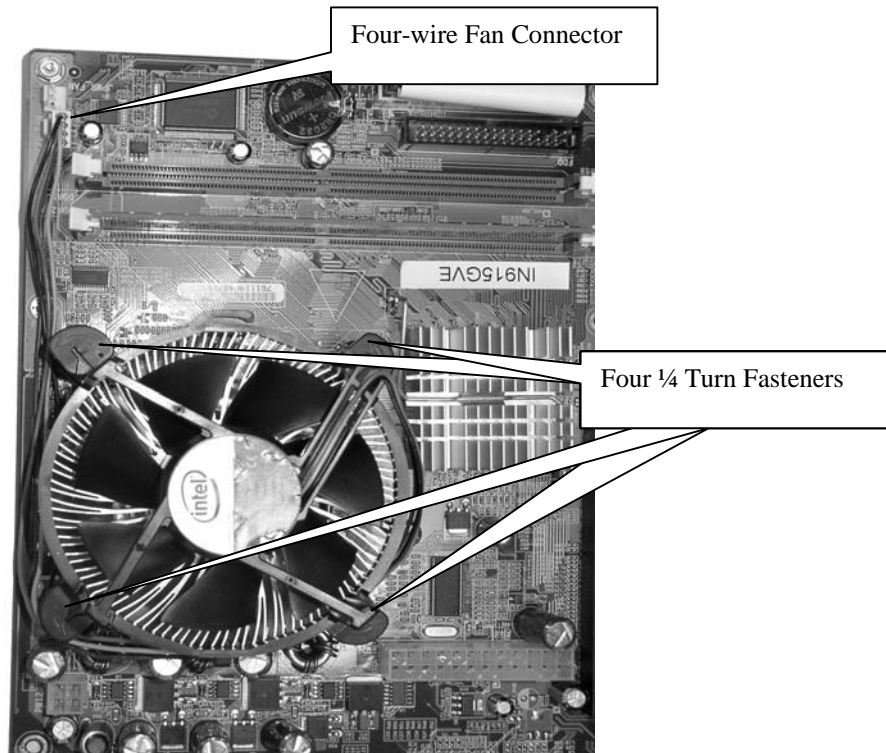

Figure 3
4. To remove the Intel Fan Assembly from the computer board, locate the four “quarter turn fasteners” on the fan assembly as shown in Figure 3. Rotate the four fasteners $\frac{1}{4}$ turn counterclockwise which will release the fan assembly from the computer board. Unplug the four-wire fan harness from the “CPU Fan” connector on the computer board and remove the Fan Assembly from the computer board. See Figure 3.